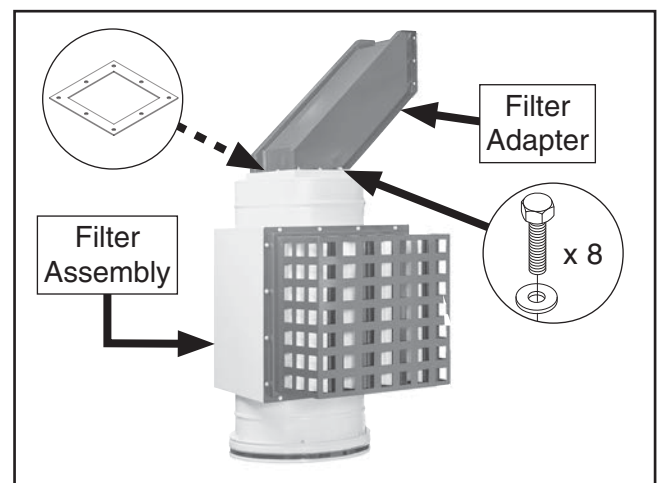

Figure 6. Filter adapter attached to filter assembly.
2. Attach filter adapter to top of filter assembly with (8) $\frac{3}{8}$ "-16 x 1" hex bolts, (8) $\frac{3}{8}$ " flat washers, and (1) filter adapter gasket (see **Figure 6**).